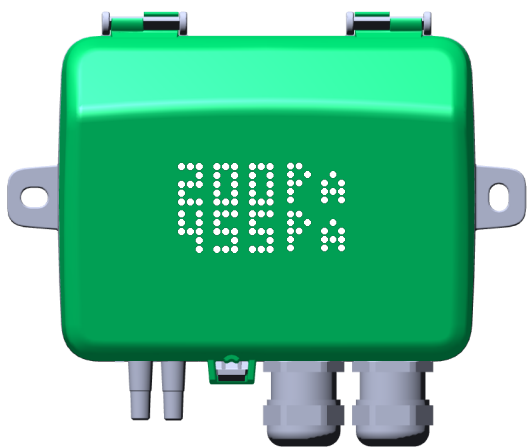

Figure 2-2 Display - Dual row
Dual row	Show values from both channels at the same time. Or, if only one sensor, it can show both pressure and flow at the same time. In a dual sensor device, row one (1) will use values from sensor one (1) and row two (2) from sensor two (2). In a single sensor device row two (2) will be used to display the extra value, if available. See Figure 2-2 Display - Dual row .